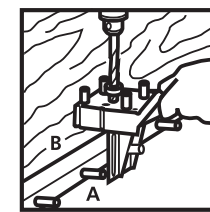

Figure 10
- Using the dowel pins in board A as guides, place the Quick Dowel Jig over board B. Ensure the angle piece is firmly against the edge of board B. Set the depth stop on the drill bit so you do not drill through board B. Drill a hole for each dowel pin. See Figure 10.